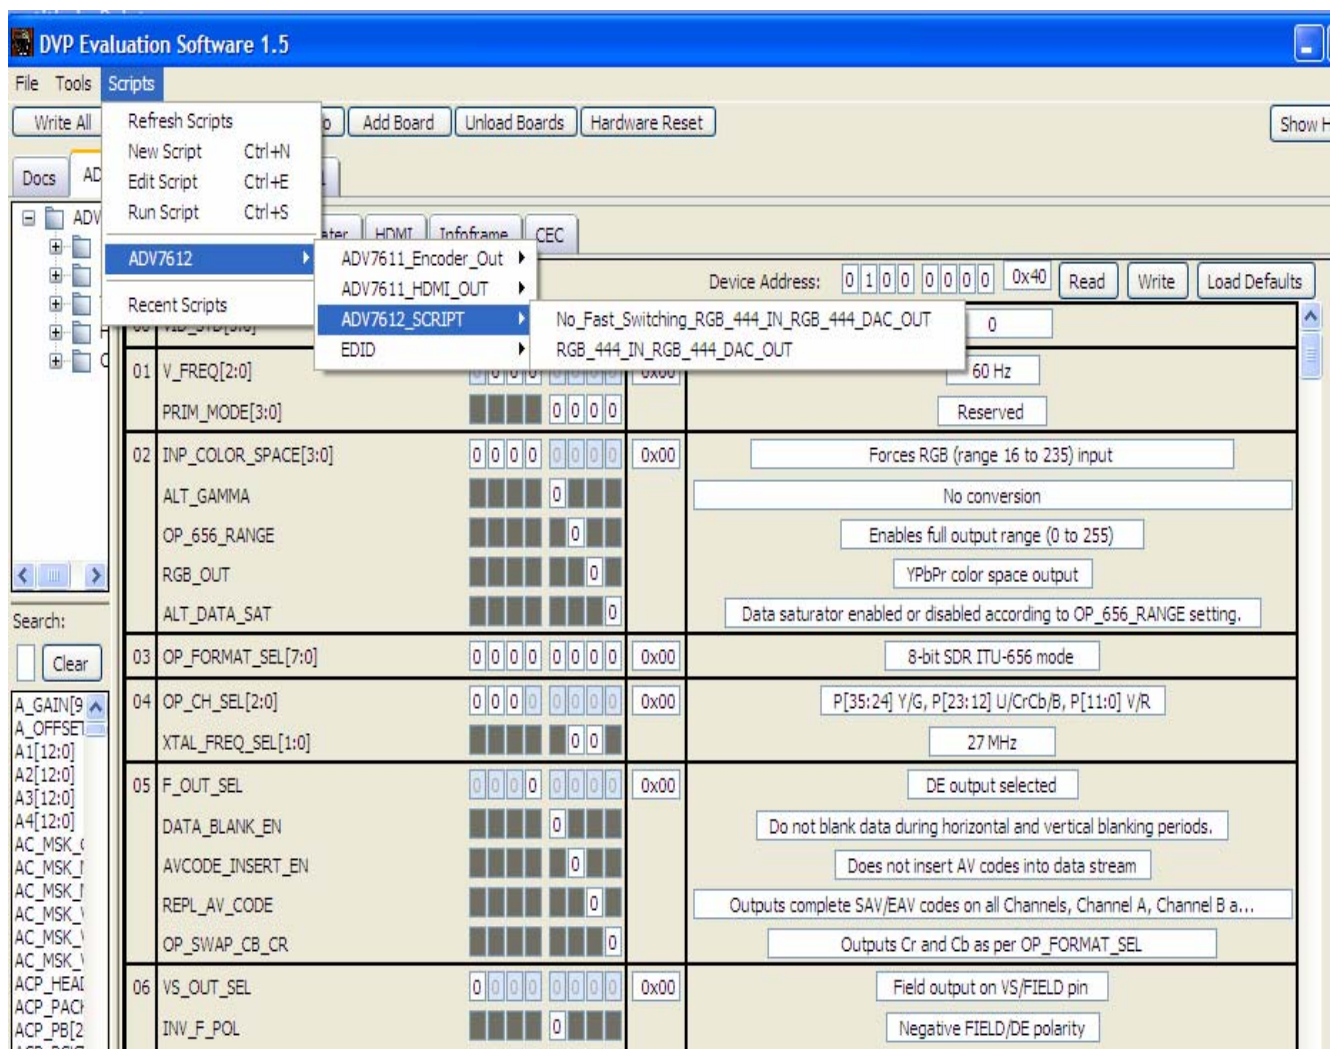

Figure 5 - XRC Script Tree
2. Follow the script tree as outlined in the expanding menus (see Figure 5)